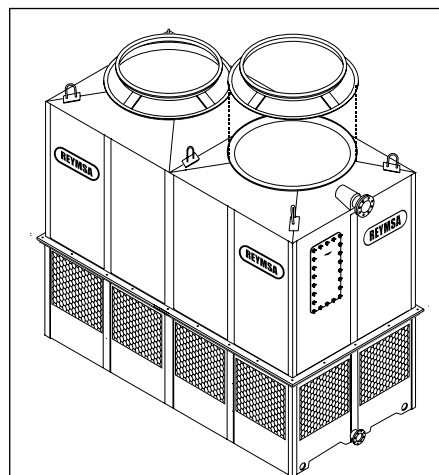

Figure A-127: Fan adaptor 2 installation on a Two Fan Tower
- B.** For the Two Fan, Four Fan and Modular Towers, follow the same instructions described in previous step to install remaining Fan Adaptors (see Figure A-127 for an example). Each fan adaptor is labeled with a number on the inside of the upper edge; for a correct installation, this number must match the number on the distribution manifold of the corresponding body.